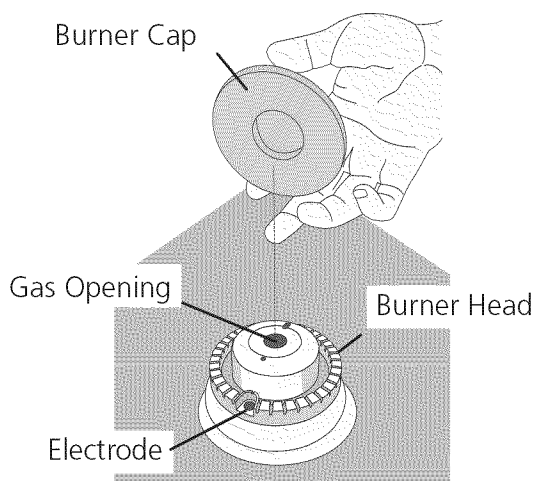

Figure 9
- B. **Regular Burners:** Burner heads and burner caps are already on the surface. Remove all tapes from burner caps and verify if they are correctly placed on the burner heads (see Figure 9).